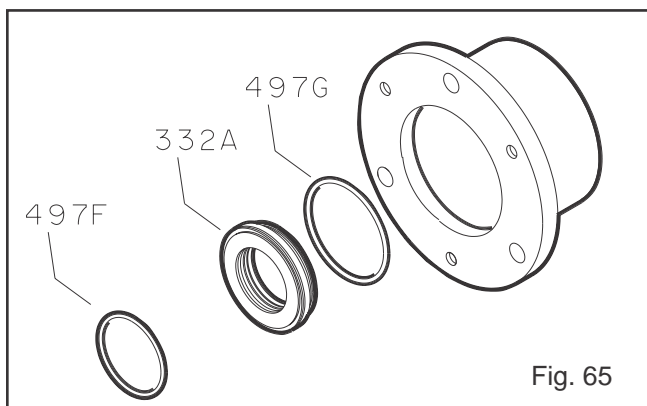

Fig. 65
7. Remove outboard labyrinth seal (332A) from bearing housing (134). Remove O-rings (497F), (497G) if necessary (Fig. 65).